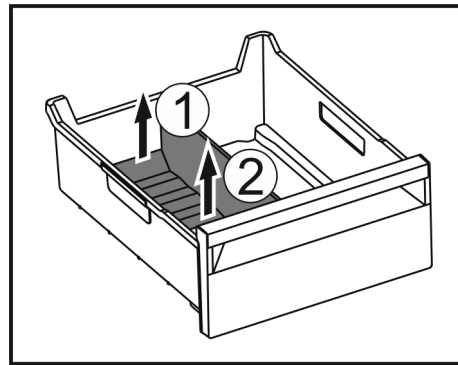

Fig. 155
- Lift the rear part of the ice compartment divider. Fig. 155 (1)
- Remove the ice compartment divider upwards. Fig. 155 (2)